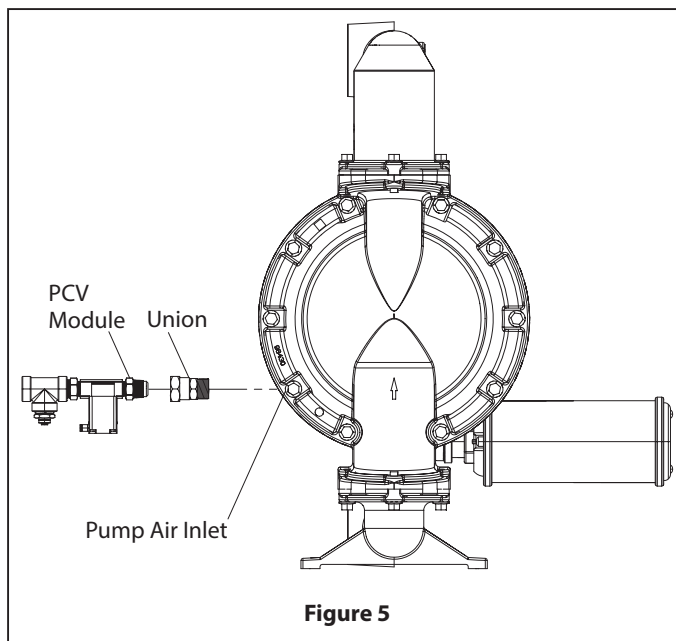

Figure 5
3. Mount the PCV Module to the union, see Figure 5.